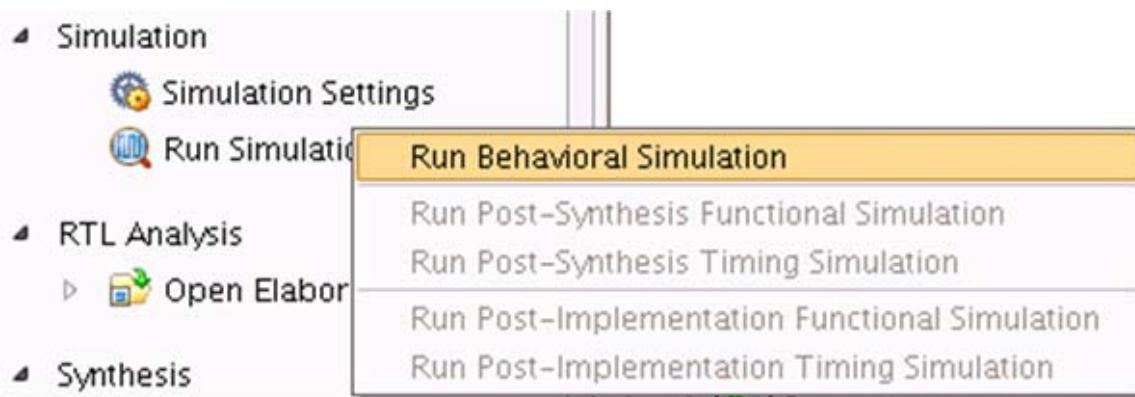

Figure 4-40: Run Behavioral Simulation
3. In the **Flow Navigator** window, select **Run Simulation** and select **Run Behavioral Simulation** as shown in Figure 4-40.
4. In the **Flow Navigator** window, select **Run Simulation** and select **Run Behavioral Simulation** as shown in Figure 4-40.